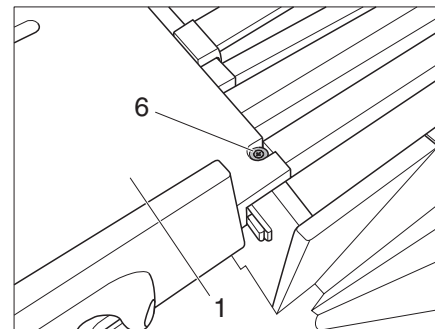

Fig. 106 Locking bolt for the pull out extension
- Secure the pull out extension (Fig. 106,1) in the locking bolt (Fig. 106,6) or use the locking bolt (Fig. 106,6) as a stop for the pull out extension (depending on the floor plan).
- Lift the pull out extension (Fig. 106,1) out of the locking bolt (Fig. 106,6).